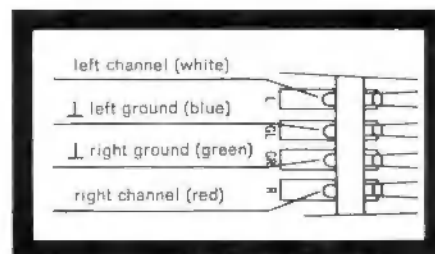

Fig. 15
3. Connect each lead on the cartridge holder to its corresponding pin on the cartridge. Each lead is color-coded as shown in fig. 15.